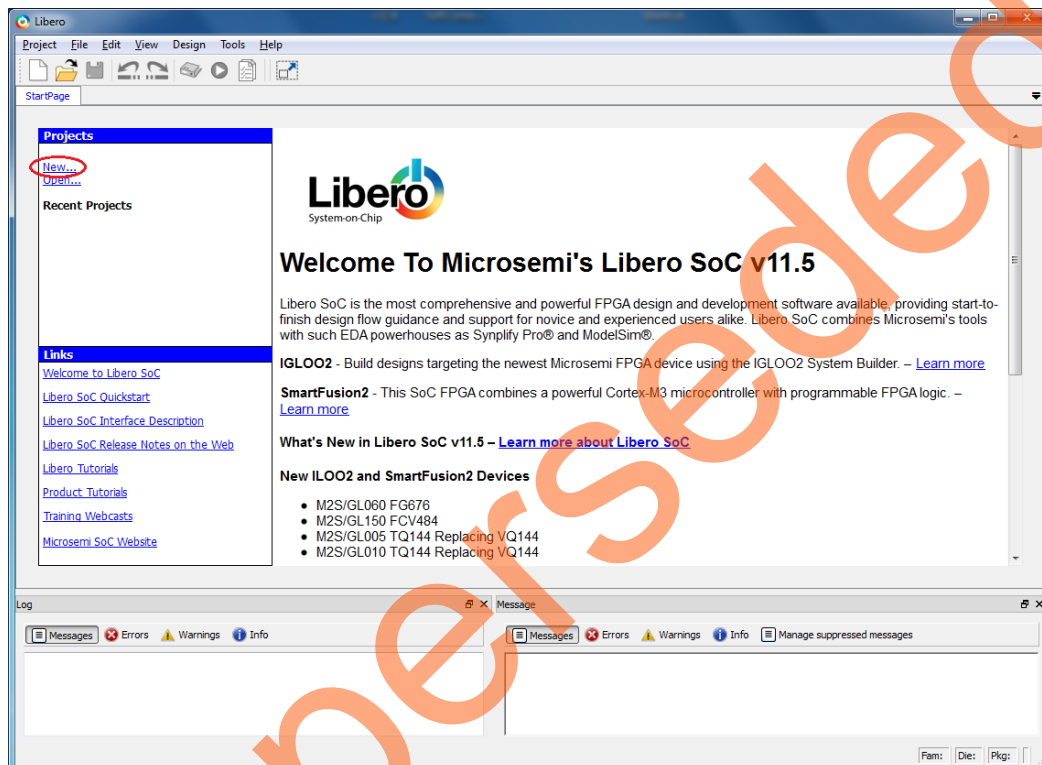

Figure 2 • Libero SoC Project Manager
1. Click **Start > Programs > Microsemi Libero SoC v11.5 > Libero SoC v11.5**, or click on the shortcut icon on the PC. This opens **Libero SoC Project Manager** window as shown in Figure 2.
- Select **New** on the **Start Page** tab as shown in Figure 2.